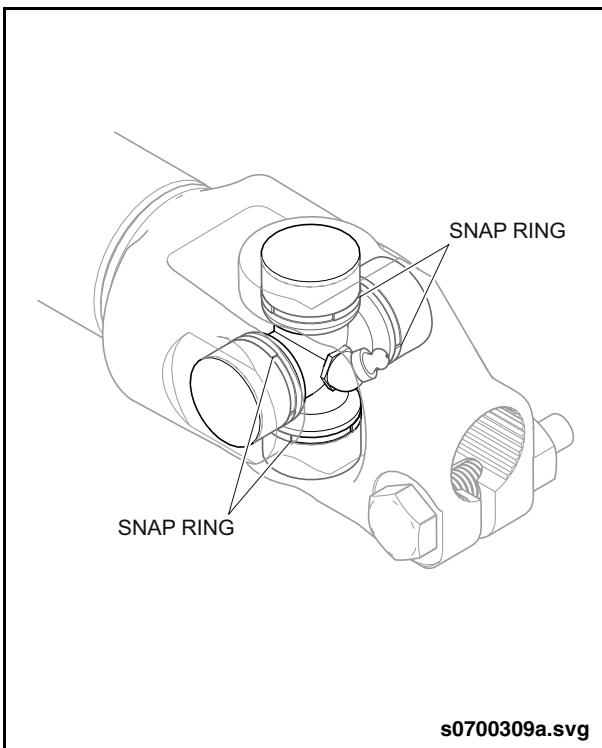

Fig. PM-15: Snap Ring Inspection
3. Inspect the U-joints to ensure that all snap rings are installed and fully seated within the groove on the bearing cup. The bearing cup must not protrude any more than 0.105" beyond the surface of the yoke bore. See "Fig. PM-15: Snap Ring Inspection" on page 44.